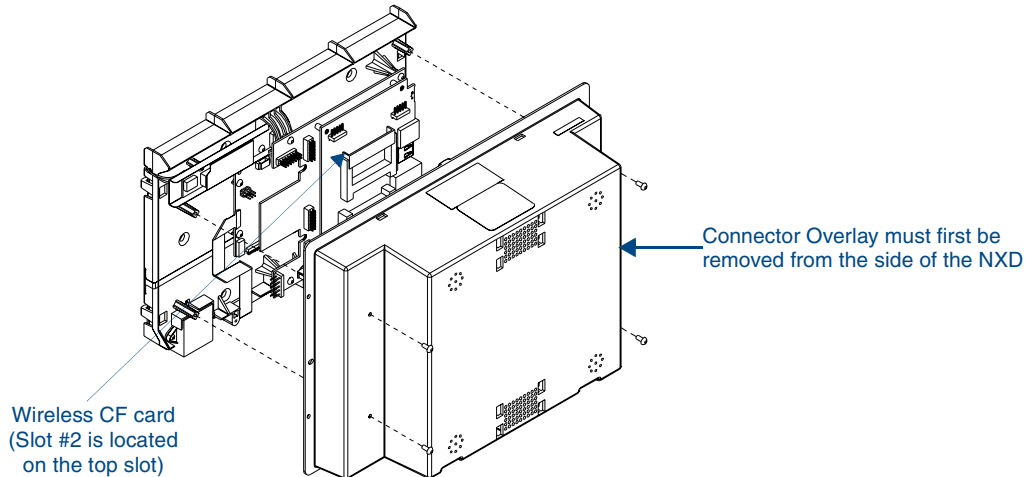

FIG. 13 Location of the wireless CF card connector on main board
7. Gently lay the back box to one side of the unit. This exposes the internal circuit board (FIG. 13). Take care not to place undue strain on the speaker cables.